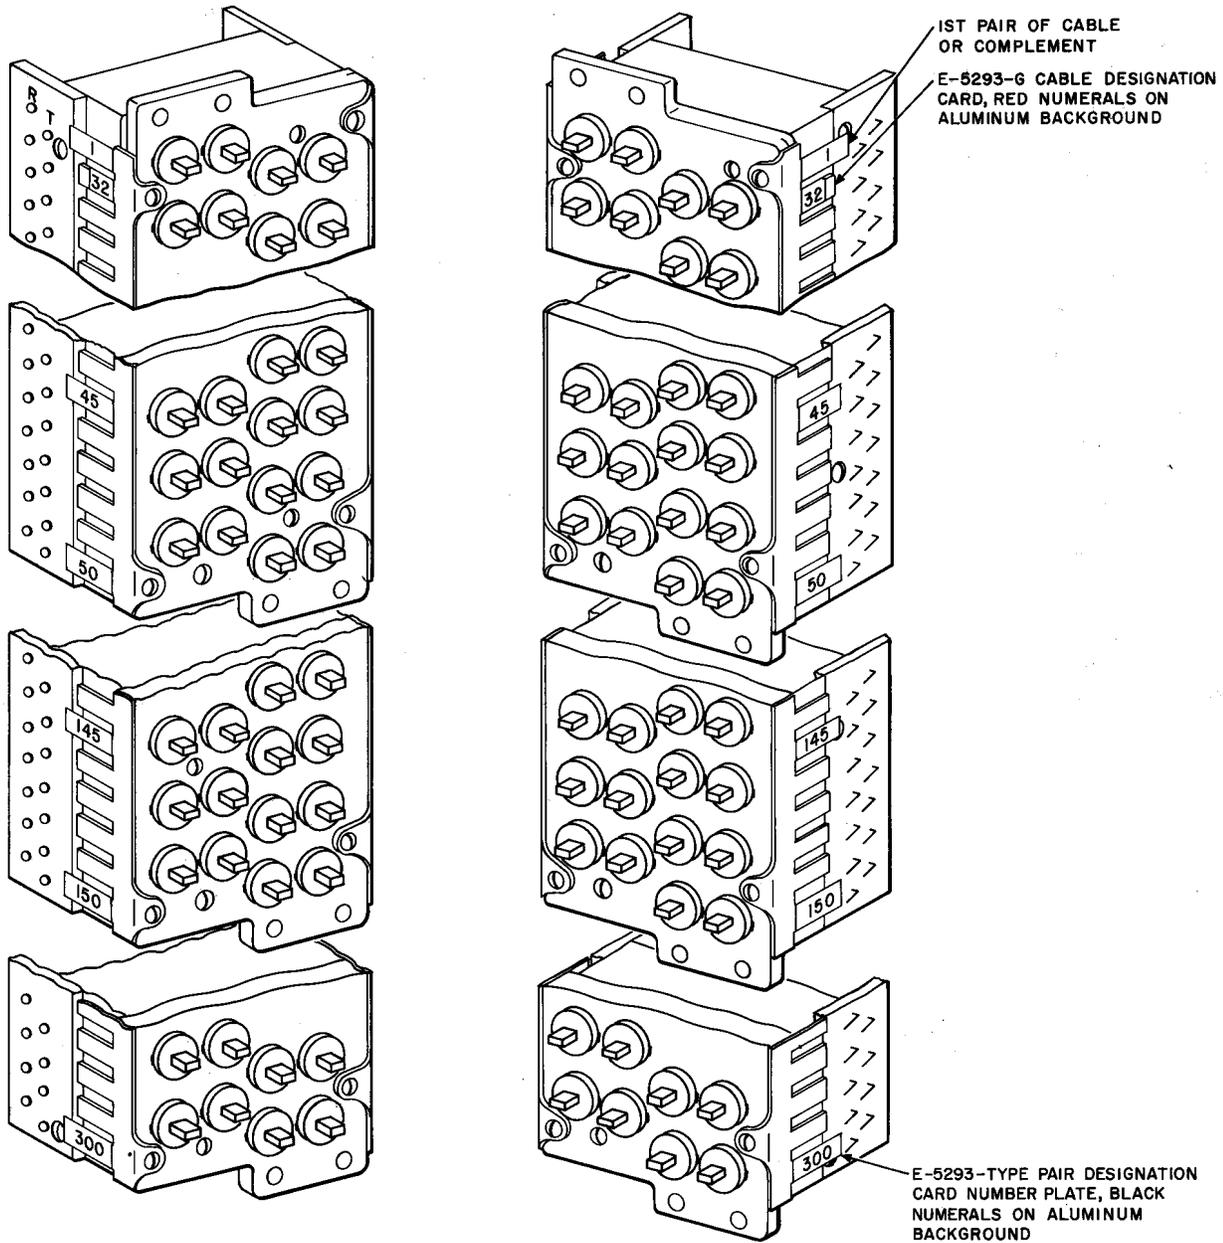

Fig. 4—Number Plates on Aluminum Fingers of 300-Type Connector
2.08 The superseded 300-type connector (Fig. 4) with aluminum fingers requires the use of adhesive number plates for marking the first and last pair and all intermediate pairs ending in 0 or 5.